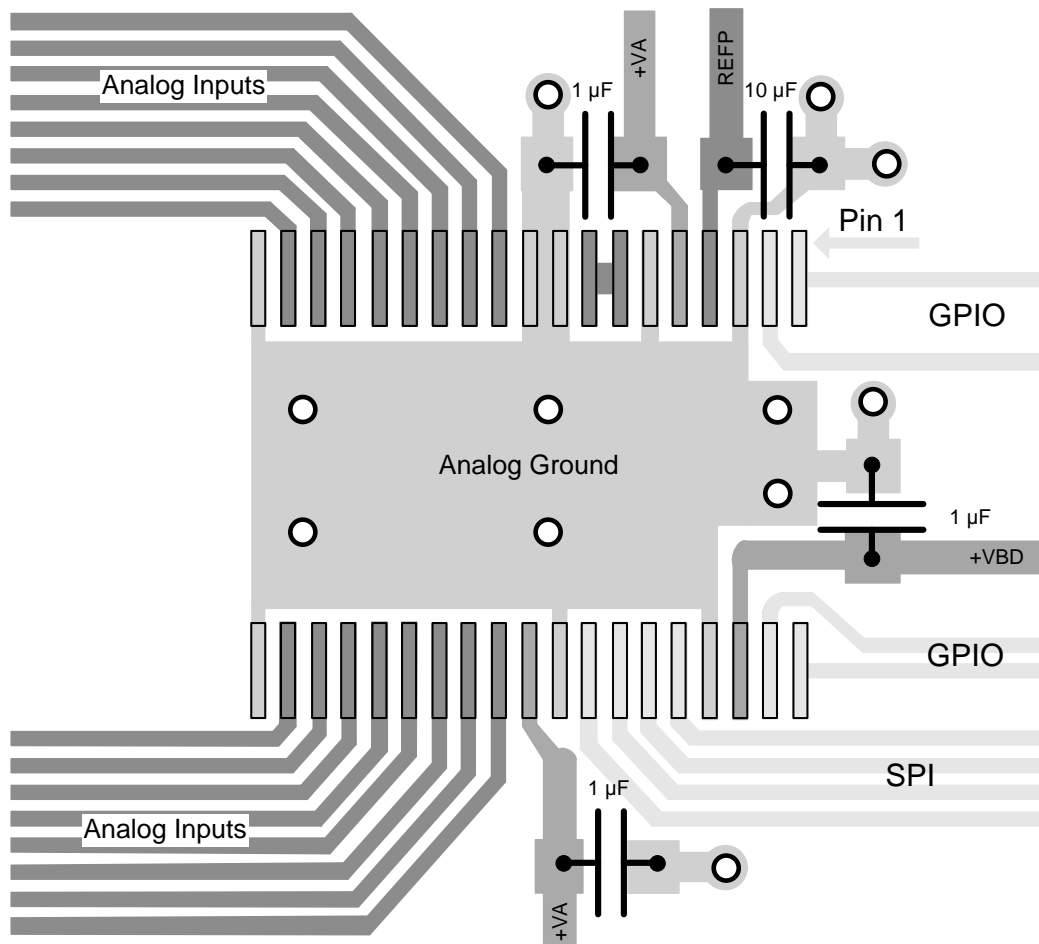

Figure 69. Recommended Layout for the TSSOP Packaged Device
- The power sources must be clean and properly decoupled by placing a capacitor close to each of the three supply pins, as shown in Figure 69 and Figure 70. To minimize ground inductance, ensure that each capacitor ground pin is connected to a grounding via by a very short and thick trace.
- The REFP pin requires a 10- $\mu\text{F}$  ceramic capacitor to meet performance specifications. Place the capacitor directly next to the device. This capacitor ground pin must be routed to the REFM pin by a very short trace, as shown in Figure 69 and Figure 70.
The full-power bandwidth of the converter makes the ADC sensitive to high frequencies in digital lines. Organize components in the PCB by keeping digital lines apart from the analog signal paths. This design configuration is critical to minimize crosstalk. For example, in Figure 69, input drivers are expected to be on the left of the converter and the microcontroller on the right.